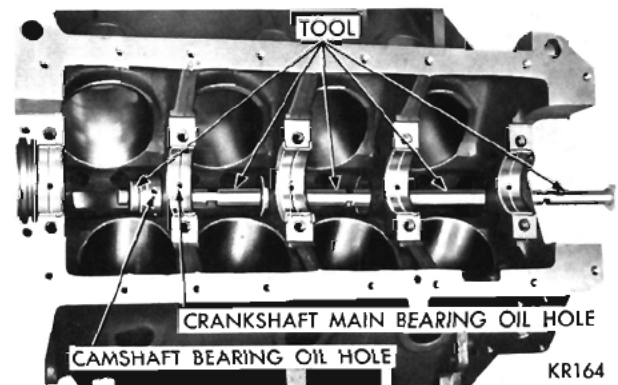

Fig. 95—Removing Camshaft Bearing Using Tool C-3132A
(1) Install the new camshaft bearings with Tool C-3132A by sliding the new camshaft bearing shell over the proper adapter.
(2) Position the bearing in the tool. Install the horse shoe lock and by reversing the removal procedure, carefully drive bearing shell into place, as shown in Figure 95.
(3) Install the remaining shells in like manner.
The oil holes in the camshaft bearings and cylinder block must be in exact alignment to insure proper lubrication (Fig. 95).